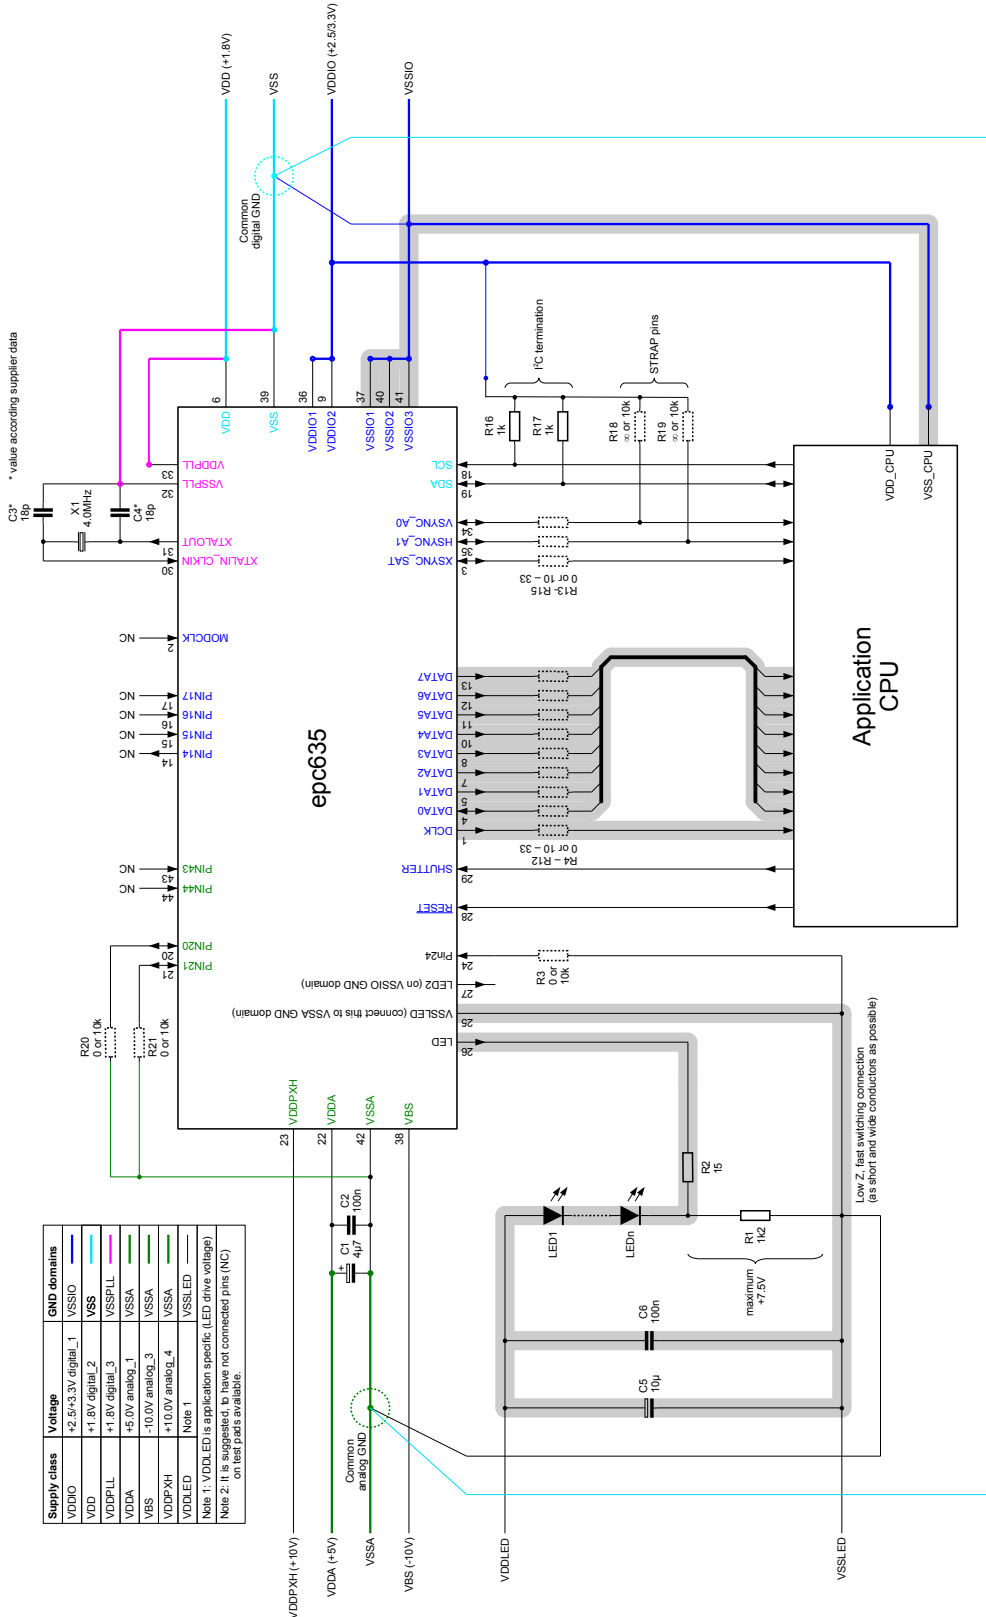
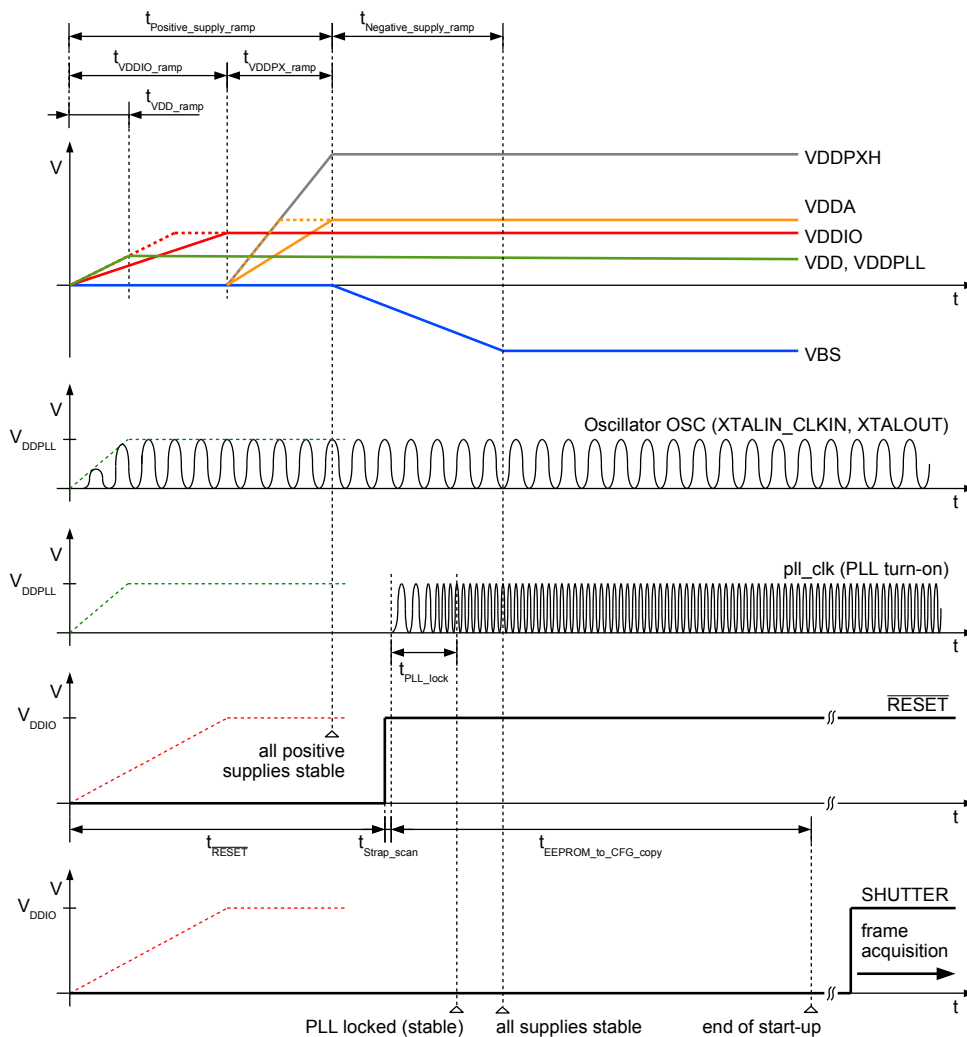

Figure 14: Typical application diagram
Figure 18: Power-up and reset sequence
Table 10: Values of component related to epc635 chip, see Figure 14
- +1.8V is used for supplying the digital logic (VDD), the on-chip oscillator OSC and the phase-look-loop PLL (VDDPLL). The digital logic creates some internal switching noise on VDD. When the same supply is shared together with OSC and PLL, their supply wiring must be separated from the digital wires and physically isolated from each other. These supplies are marked in the application diagram as VDD and VDDPLL respectively (Figure 14). A good practice is inserting on the PCB a series inductance of 100nH between them close to the supply source, then creating separate supply islands for both on the board. The XTAL/OSC and PLL are critical parts of the chip which directly impacts the optical system performance (i.e. distance calculation).
- +5V is used for supplying analog blocks of the chip e.g. pixel-field drivers and ADC readout circuitry. Refer to Figure 14.
15. Pins not listed here have to be connected according Figure 14.
During power-up, VDD and VDDPLL supplies (Figure 18) must be applied at the same time to the epc635. VDDIO can be applied either at the same time or after VDD and VDDPLL supplies become stable. In a system where VDDIO voltage is connected in parallel to application CPU IO supply pins (see Figure 14), VDD and VDDPLL can be generated by a linear regulator directly from VDDIO supply. In this case, all these three supplies ramp together.
The epc635 starts using either the internal 4MHz oscillator OSC with a crystal/resonator (Figure 14) or an external 4MHz clock, followed by an EEPROM copy sequence in parallel to the PLL turn-on phase. This is the factory default configuration. Several configuration registers are modified by copying the EEPROM content (Figure 50, i.e. overwrite reset values). The EEPROM copy step takes 340µs after the RESET is released.
The epc635 has output pins with dual/alternative functionality for PCB level flexible start-up configuration changing, called 'strap pins'. RESET release is followed by a strap pin scanning step. The chip programs its strap pins as inputs with internal pull-down resistors enabled for 4 osc_clk periods (refer to Table 1 and Table 3). If there is no external pull-up resistor connected, the corresponding strap pin will be scanned as logic 0 due to the internal pull-down resistor. If there is an external pull-up resistor connected (Figure 14), it will override the internal pull-down and corresponding pin will be scanned as logic 1. After the strap scan period, pins are programmed back as outputs so that they can be used for their main function. Strap pins and their definitions are listed below (Table 11).